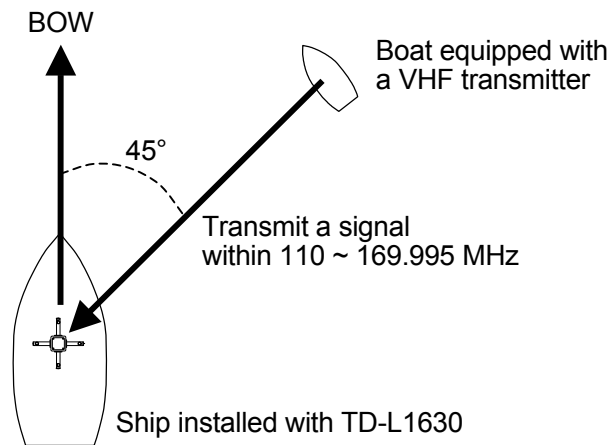

Fig. 14
- (4) Arrange a boat equipped with a VHF transmitter at 45 degrees against bow of the ship which installed the TD-L1630, and transmit VHF signal. (Refer to Fig.14)